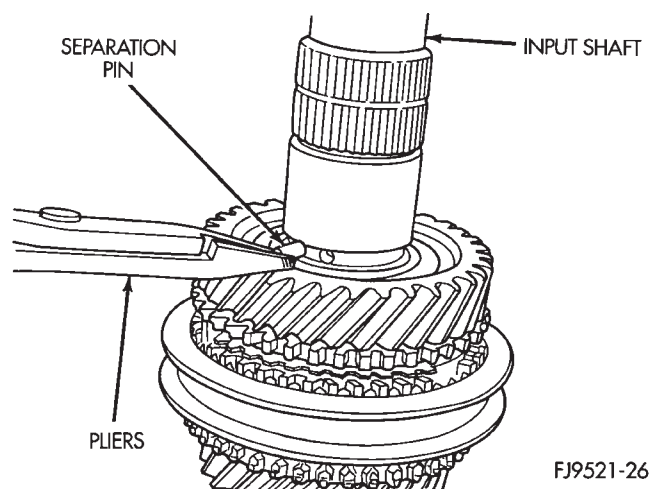

Fig. 100 Split Thrust Washer Separation Pin Installation
(4) Install 3-4 synchronizer snap ring into slot on input shaft.
(5) Install blocking ring into 3-4 synchronizer. Install 4th gear caged needle bearing.
(6) Install 4th gear onto input shaft.
(7) Install 4-5 split thrust washer separation pin (Fig. 100).